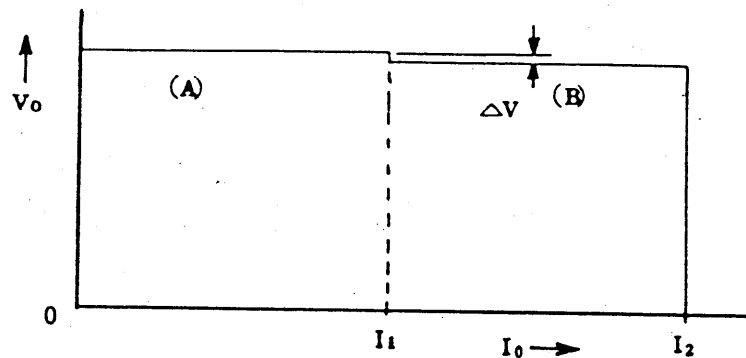

Figure 3-7. Parallel operation characteristics
The voltage and current characteristics when in the parallel operation are as shown in Figure 3-7. The unit (A) of a higher voltage operate until it is overloaded. When this unit is driven into the constant-current domain, its output voltage falls. When the output voltage of this unit has fallen to that of another unit (B), the output voltage of unit B changes from the overvoltage state (caused by unit A) into the normal state. Therefore, the load change causes the output voltage change of  $\Delta V$  which is the difference of the setting voltages of units A and B, and consequently the ripple characteristics are degraded by the corresponding amount.